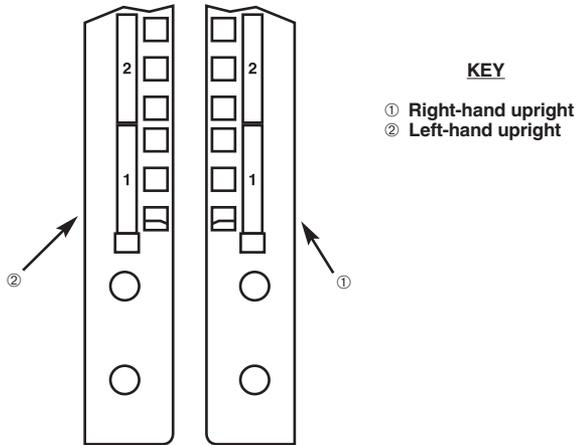
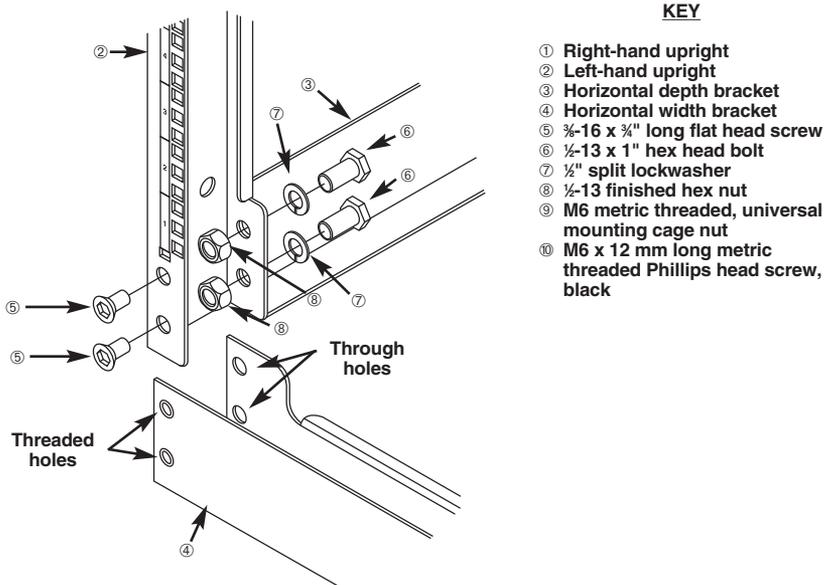

Figure 3-1. Uprights.
Figure 3-2. Assembling the rack corners.
- B. Align the through holes in one top/bottom horizontal width bracket (④ in Figure 3-2) with the through holes in one left upright (② in Figure 3-2). Install (2) $\frac{5}{8}$ "-16 x $\frac{3}{4}$ " long flat head screws (see ⑤ in Figure 3-2) through the holes on the upright and the threaded holes on the horizontal width bracket (④).
- C. Align the through holes in one top/bottom horizontal depth bracket (③ in Figures 3-2 and 3-3) with the through holes on the opposite side of the upright in Step 2B (② in Figure 3-1). Install (2) $\frac{1}{2}$ "-13 x 1" hex head bolts, lockwashers, and (2) $\frac{1}{2}$ "-13 finished hex head nuts (see ⑥, ⑦, and ⑧ in Figure 3-1).
- B. Repeat Steps 1B through 1E for the remaining two top/bottom horizontal width brackets and the two top/bottom horizontal depth brackets. See Figures 3-2 and 3-3.